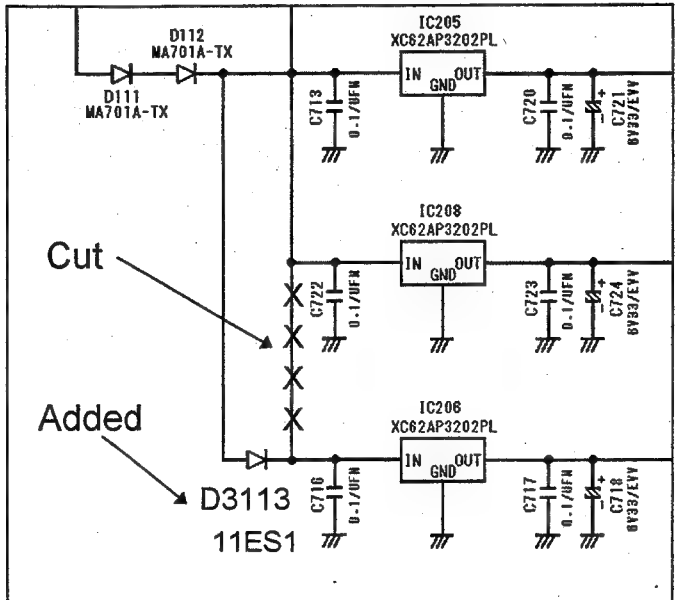

Fig. 2 Page 2-82 (B-4) - AJ-D640/D650
- 2). Add a diode D3113 (11ES1) between terminal I of IC3204 (anode side) and terminal I of IC3206 (cathode side) on the foil side as shown in figures 2 and 3.